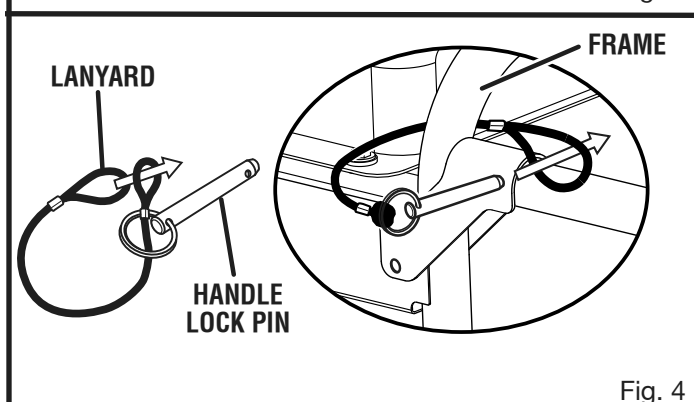

Fig. 4
See Figures 4 - 5.
- Attach the lanyard to the handle lock pin and the handle as shown in figure 4.